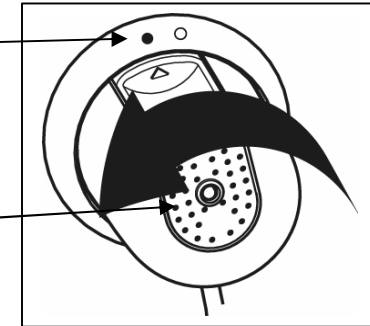

Fig. 3
2. Rotate the UV system counter-clockwise to the "locked" position. (See Fig. 3)